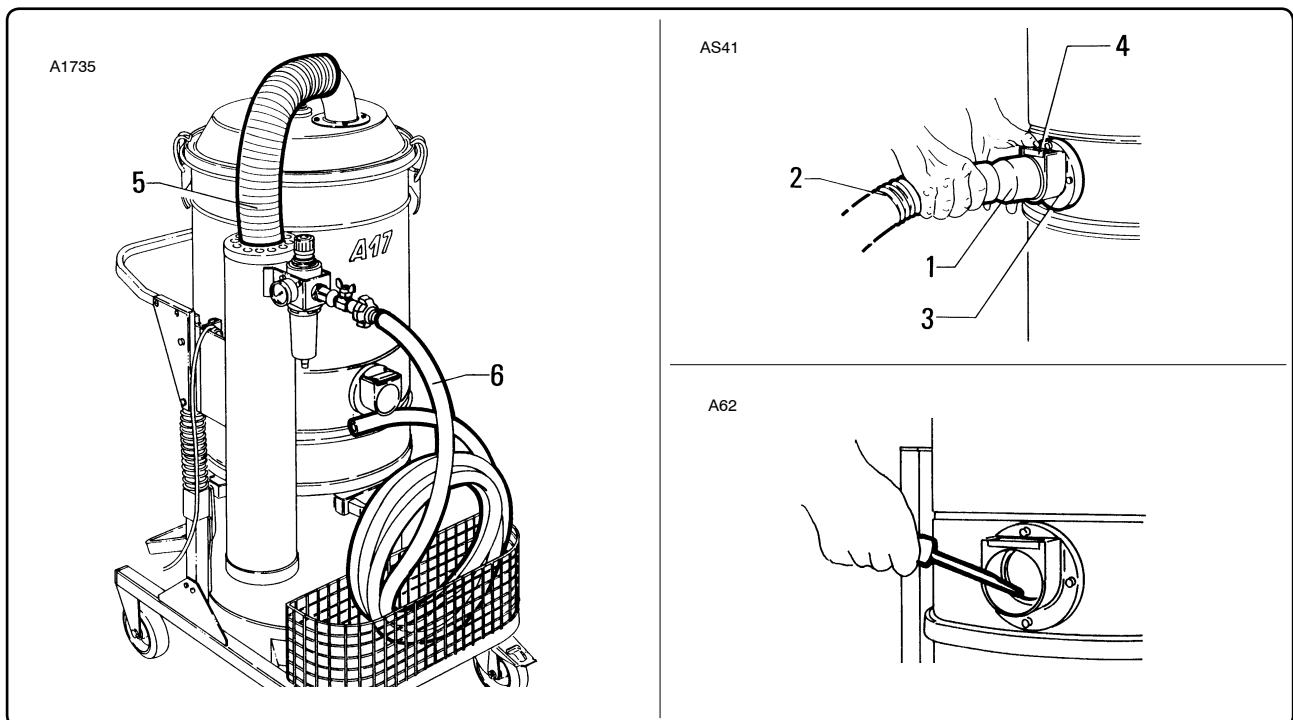

Fig. 7.5.9
7.5.7 - Checking the condition of the pipes (fig. 7.5.9)
To remove pipe "2", just press plate "4" on outlet "3" as indicated in fig. 7.5.9.
Scrape outside the outlet and remove the deposited waste as indicated in fig. 7.5.9.